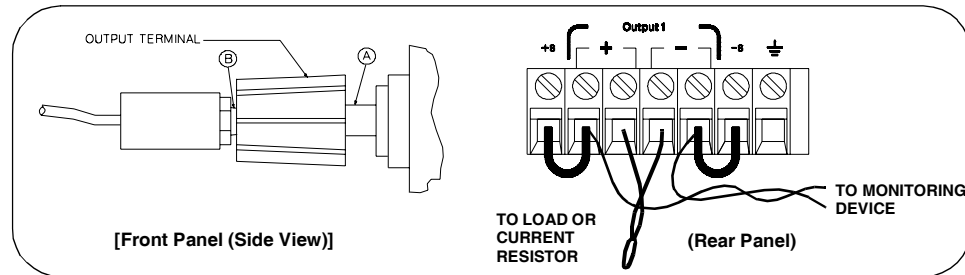

Figure A-2 Front/Rear Panel Terminal Connections
When measuring V_{rms} ripple and noise, the monitoring device should be plugged into the front of the terminals at (A) in Figure A-2. Use the BNC (Female) receptacle and the cable (BNC to BNC) to connect the monitor device to the power supply. To reduce the measurement error caused by common noise, it is recommended to twist the connection wire between the BNC receptacle and the output terminals. The load resistor is connected to the terminal at (B) in Figure A-2. Twisted leads between the load resistor and the power supply helps reduce noise pickup for these measurements.